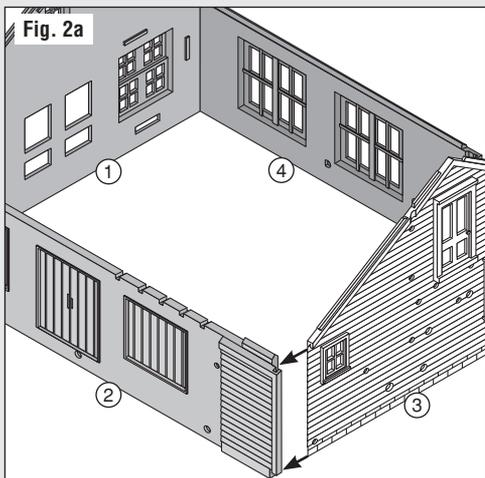

Fig. 2b
- Glue Small Side Wall (6) to Dock Door Wall (5), then glue Dock (7) in place (**Fig. 2b**).